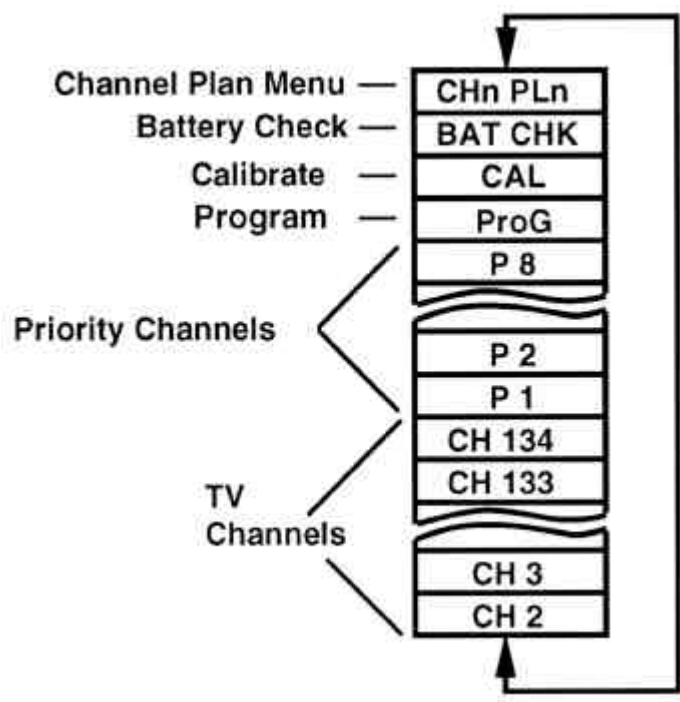

Fig. 2 Tune-by-channel tuning illustration
In the tune-by-channel mode, the Model 715i will tune through all channels within the frequency range of the unit. In addition to these channels, user-programmable Priority frequencies, a calibrate (CAL) frequency, a battery check position, and a channel plan tuning selection position are available. See Fig 2. These positions are explained in the following section.
**NOTE:** When selecting tune-by-channel, the unit will tune the closest channel to the frequency previously selected while in the tune-by-frequency mode. Conversely, when changing to the tune-by-frequency mode, the unit will tune the video carrier frequency of the channel previously selected in the tune-by-channel mode. Also, when tuning channels, only the particular channels within the selected channel plan will appear (Fig. 2 shows NCTA Standard). The number of Priority Channels that will appear depends on the number programmed. See the section on Field Programming for information regarding selecting a channel tuning plan.